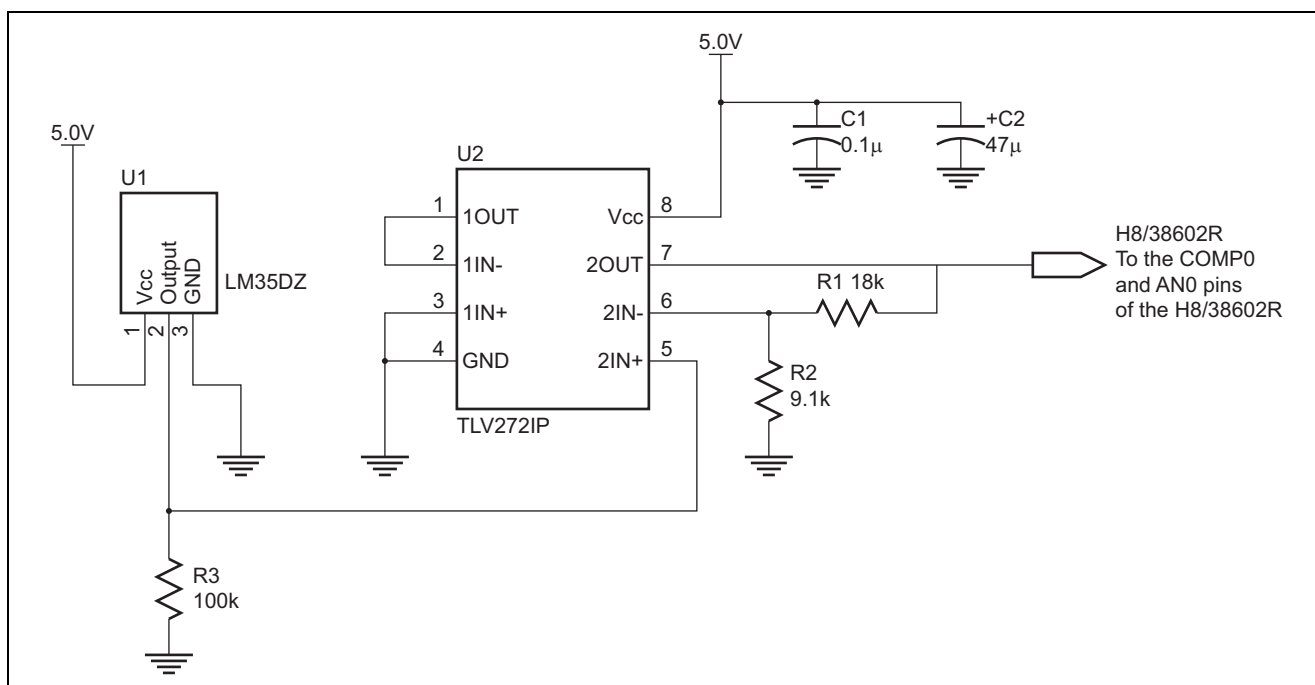

Figure 2 Connection Diagram
7. Figure 2 is a connection diagram of this application, and table 1 shows supply currents.